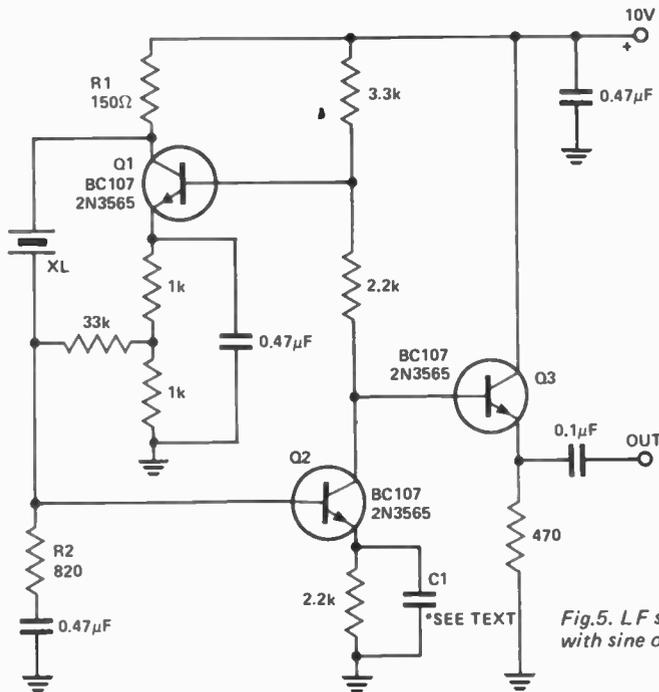

Fig.5. L.F. series mode oscillator with sine or squarewave output.
The circuit in Fig. 5. is a series mode oscillator described by Lane (3). It has the advantage of not requiring a tuned circuit, and has a choice of sine or square wave output. For crystals in the range 50-150 kHz, 2N3565 transistors are recommended although the author has found BC107's satisfactory. Either type will suffice for crystals in the range 150 kHz to 500 kHz. If you find the crystal will not start reliably, most likely the crystal has a very high equivalent series resistance, in which case increase R1 to 270 ohms and R2 to 3.3 k (as recommended by Lane). For square wave operation, C1 is 1 μ F (or a value close to, or above it). For sine wave output, C1 is not in circuit. Amplitude limiting is unnecessary. Sine wave output is about 1 V rms, square wave output about 4 V peak to peak.